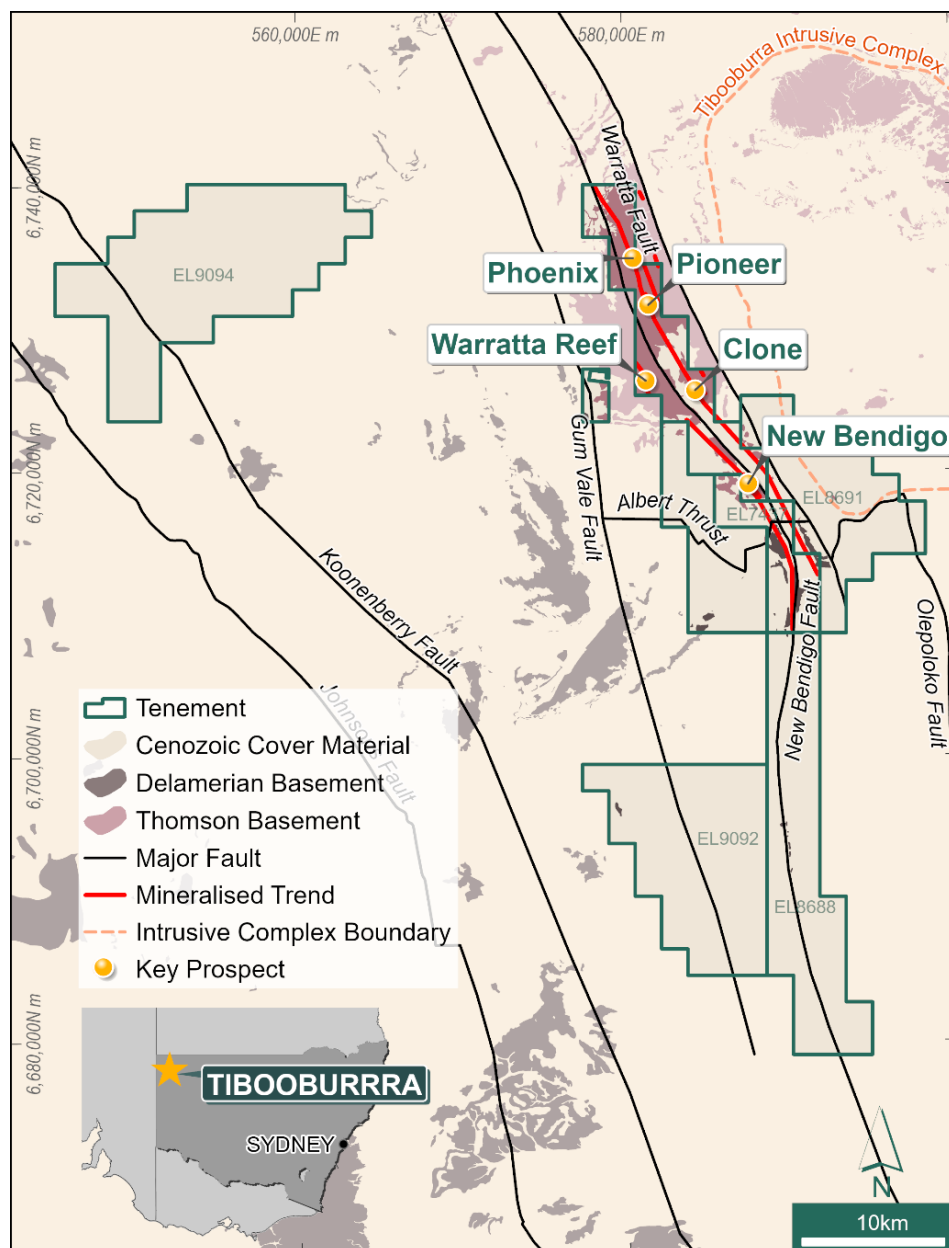

Figure 1 Tibooburra Gold Project location and tenement map, showing main prospects.
**PERTH, WESTERN AUSTRALIA - Novo Resources Corp. (Novo or the Company)** (ASX: NVO) (TSX: NVO) (OTCQB: NSRPF) is pleased to announce significant high-grade gold results from the Company's maiden drilling program at the Tibooburra Gold Project (**Tibooburra**) (Figure 1), located in northwestern NSW. The program comprised 14 holes for 1,984 m, testing 500 m of strike at the Clone prospect (**Clone**).